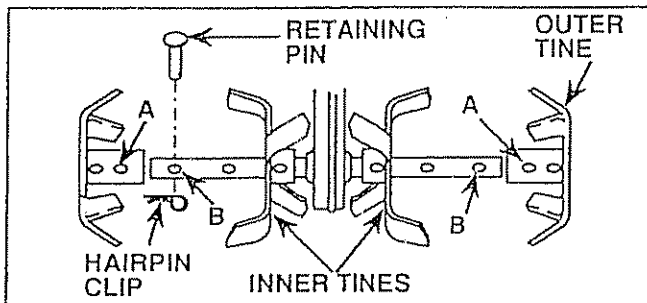

FIGURE 20
- NORMAL TILLING - 17 INCH PATH (outer Tines turned inward and assembled on outer shaft position). Holes "A" in Tines to holes "B" in Tine Shaft (Fig. 20). Use this arrangement for normal tilling, first cultivation of crops in 22 inch rows and edging.